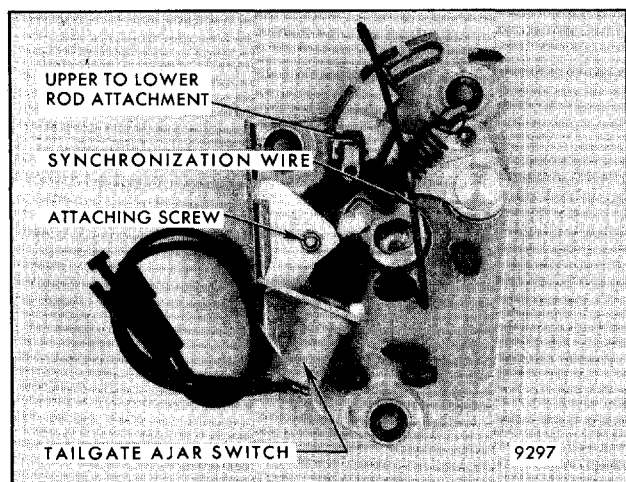

Fig. 7-140 - Tailgate Left Lower Lock Assembly
TAILGATE RIGHT LOWER LOCK ASSEMBLY (Fig. 7-140)
NOTE: All locks must be installed in the latched position to accomplish proper lock synchronization. All service replacement locks will have a synchronization wire installed and be in the latched position when received, Figure 7-140. This wire must be removed after installation and synchronization for proper lock operation.
2. Engage tailgate ajar switch harness (Fig. 7-140).